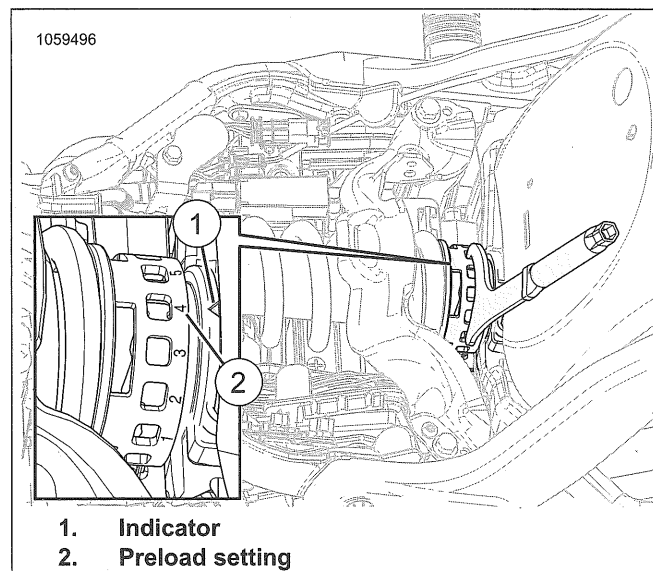

Figure 2-38. Preload Adjustment Cam
1. Cam style: See Figure 2-38.